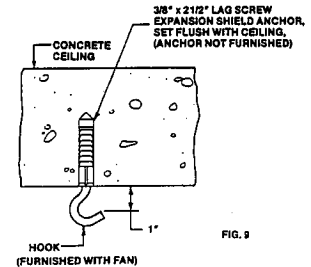

FIG. 9
- A. Drill hole in concrete ceiling to receive 3/8 x 2 1/2 lag screw expansion shield anchor, "STAR STAZIN" #1825 - 00300 or equal (not furnished). Install shield in hole observing all cautions above, and thread hook into shield to depth shown in Fig. 9. Do NOT back hook out to achieve the 1" dimension.